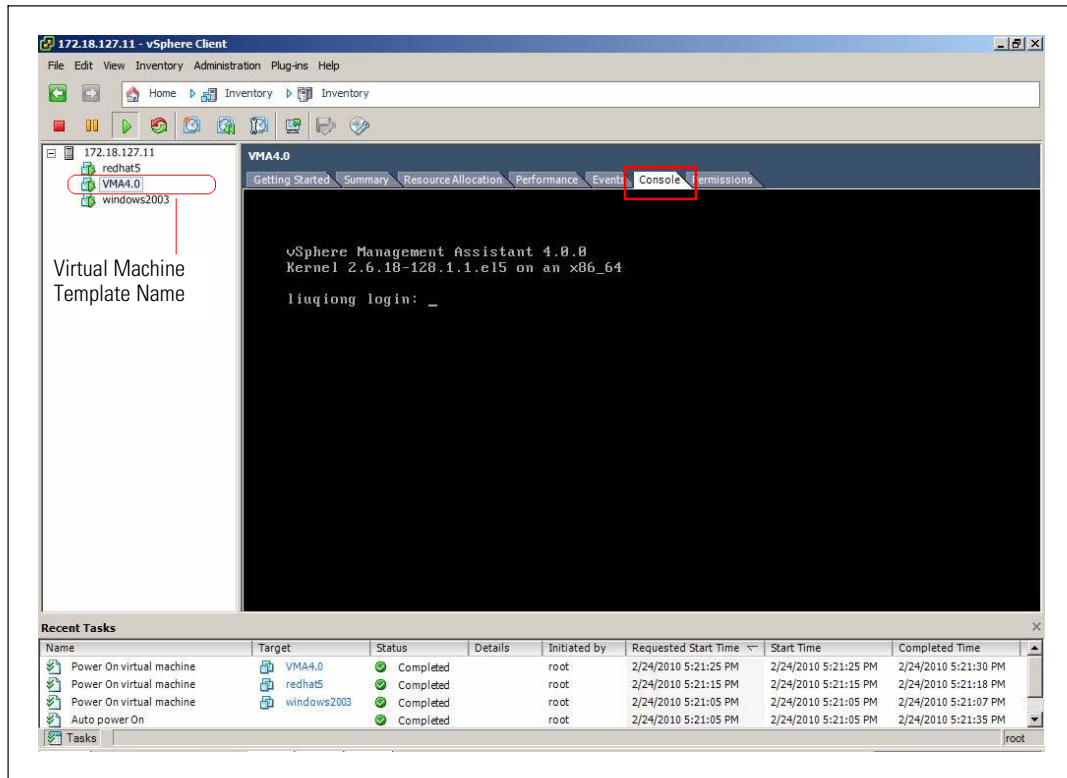

Figure 119. Console Window
- 1 On the VM Templates page, select the virtual machine template name and then select the **Console** tab. The Console window opens (see Figure 119).